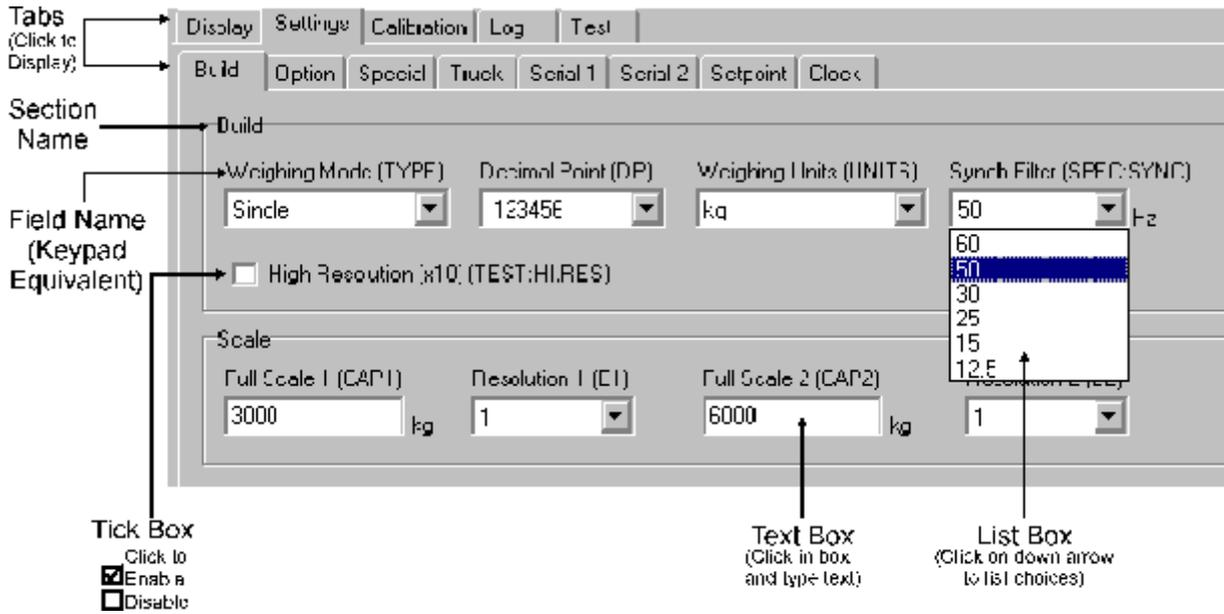

Figure 12: 5230 Viewer - Data Entry
**Setup:** The **5230 Viewer** uses standard Windows methods for changing settings and entering data. Figure 12 identifies the various types of settings used in the viewer. Refer to your Microsoft Windows manual for more detailed instructions on Windows methods.
Figure 12 displays a portion of the viewer for the 5230.